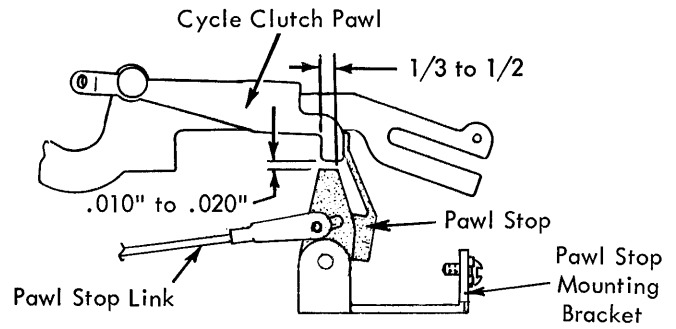

FIGURE 62. Cycle Clutch Pawl Stop
8. **Cycle Clutch Pawl Stop** - Adjust the pawl stop mounting bracket so that the cycle clutch pawl stop clears the cycle clutch pawl by .010" to .020" with keyboard locked. Best results are obtained on the high side of the adjustment (Fig. 62).
9. **Pawl Stop Link** - Adjust the pawl stop link so that there is $\frac{1}{3}$ to $\frac{1}{2}$ overlap of the cycle clutch pawl stop to the cycle clutch pawl with the keyboard lock mechanism in the lock position (Fig. 62).